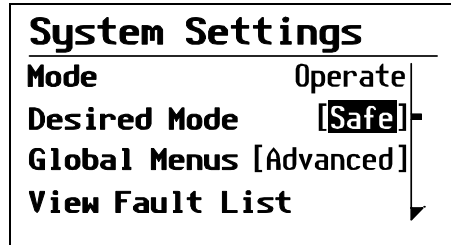

Figure 12 Safe Mode
4. Use the down arrow button to scroll through the other modes to select Safe mode, as shown in Figure 12.